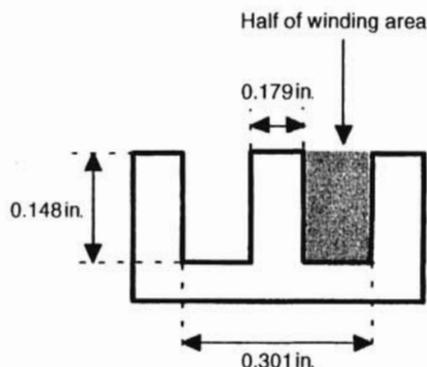

Figure 5.23 Calculating the winding area of an E core (not drawn to scale).
We can now calculate the copper losses for this design. This style core doesn't list the winding area, so let's figure it up directly from the specified core dimensions, given in Figure 5.23.
When calculating the winding area, remember that the wire goes in on one side and then back out the other side to complete the loop on the other side, so the winding area for half the core, as shown in Figure 5.23 (the whole unit consists of two of these pieces mated together) is the shaded area. Total winding area (WA) for this core is then double this,